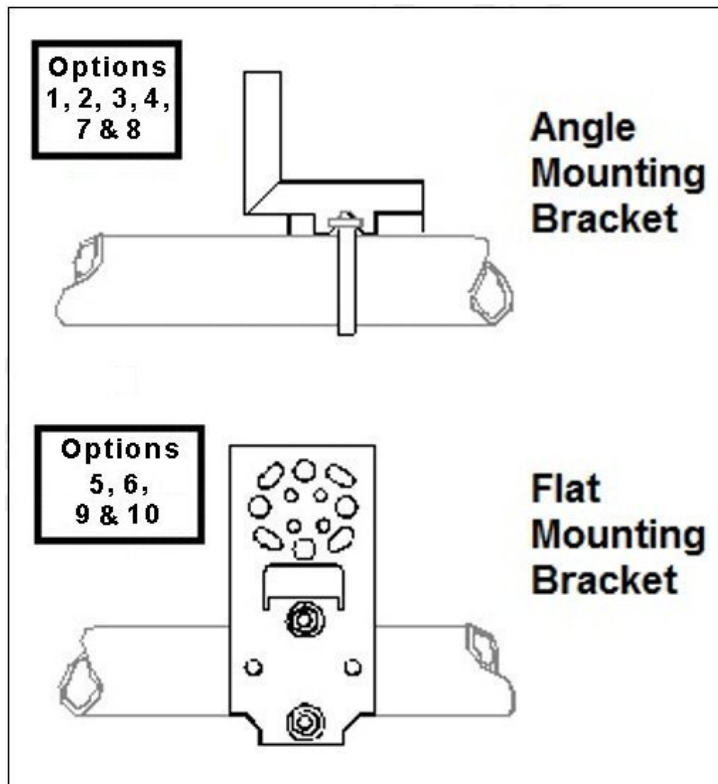

Figure 29 – ST 700 Standard Transmitter - Angle and Flat Bracket Parts
**Table 22 – ST 700 Standard Transmitter - Angle and Flat Bracket Parts**(Refer to Figure 29)